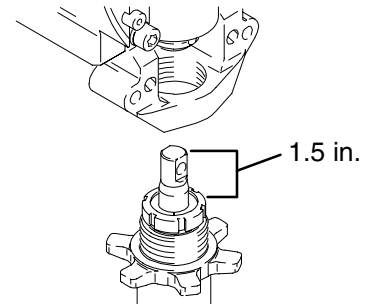

Fig. 12
1. Fig. 12. Pull piston rod out 1.5 in. Screw in pump until holes in bearing cross link and piston rod align.